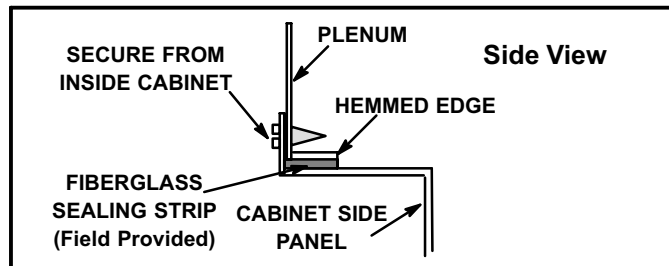

FIGURE 8
- 4 - In closet installations, it may be impossible to install sheet metal screws from the outside. In this case, make plenum with a removable front and install screws from the inside (See figure 8).